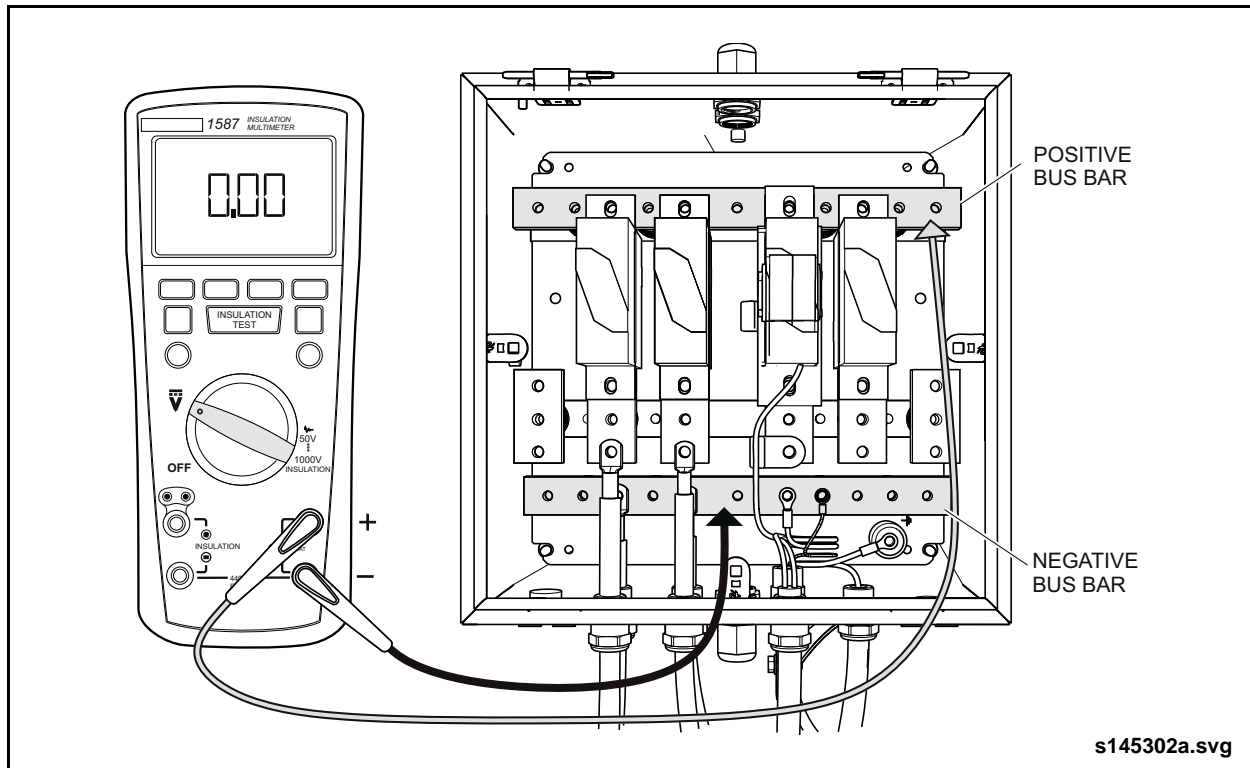

Fig. 3: High Voltage Verification - 1
- a. Measure from the positive bus bar to the negative bus bar. See “Fig. 3: High Voltage Verification - 1” on page 4.